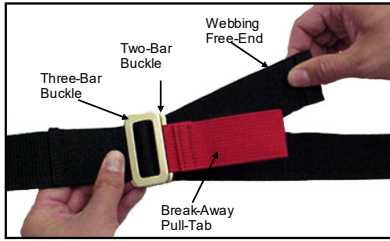

Figure 3, Seating the Buckles
2. Pull slightly on the free end of the webbing to firmly seat the three-bar buckle on top of the two-bar buckle (fig. 3).